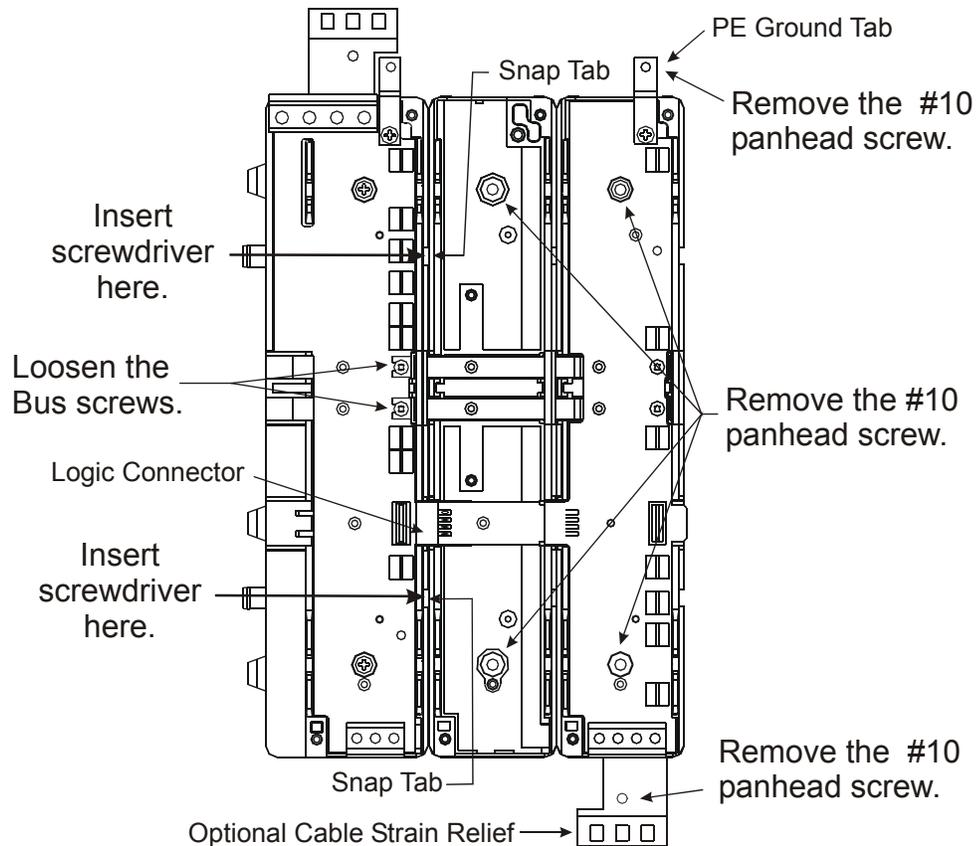

Figure 64: Drive Module Backplane Disassembly Diagram
5. Insert a flat tipped screwdriver into the slot between backplanes as shown in Fig 64. Push on the screwdriver with enough force to depress the snap tab, at the same time carefully pull the backplane away from the other backplane. The backplanes only need to be separated far enough so the snap tab is unlocked from the other backplane.